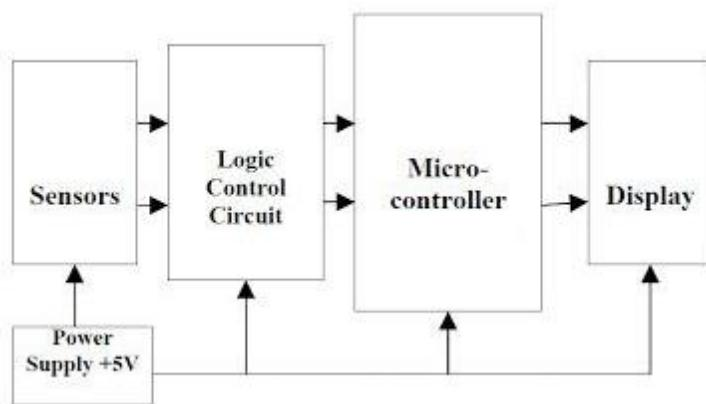
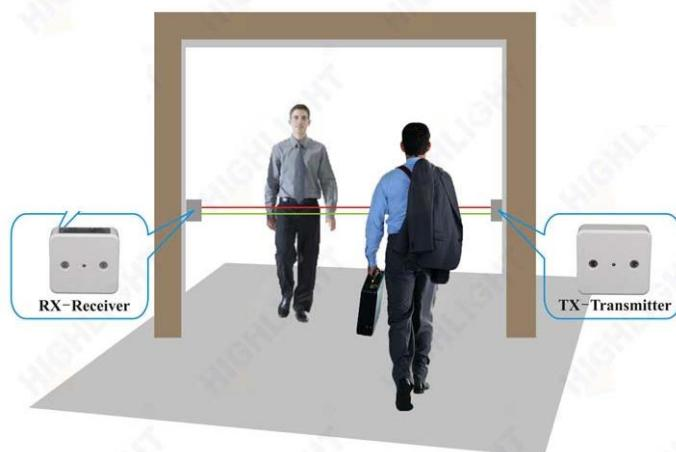

Figure-1: Block diagram of Bi-directional visitor counter
Figure-2 Illustration of sensor setup of Bi-directional Visitor counter
**(b).** A Microcontroller based bidirectional visitor counter is shown in figure-1 to count the number of visitors to the college library. Depending upon the signal from the IR sensors, this system detects the entry and exit of the visitor. Figure-2 shows sensor setup at the library entrance for bidirectional visitor counter. The logic control circuit block shown in figure – 1 keeps the record on of number of visitor entered and number of visitor exited. Microcontroller calculate number of person present in the library by subtracting number of people exited from number of people entered. Then, it displays the number of visitors present in the library on the display device-using microcontroller. For simplicity assume the system can count maximum of 16 people.